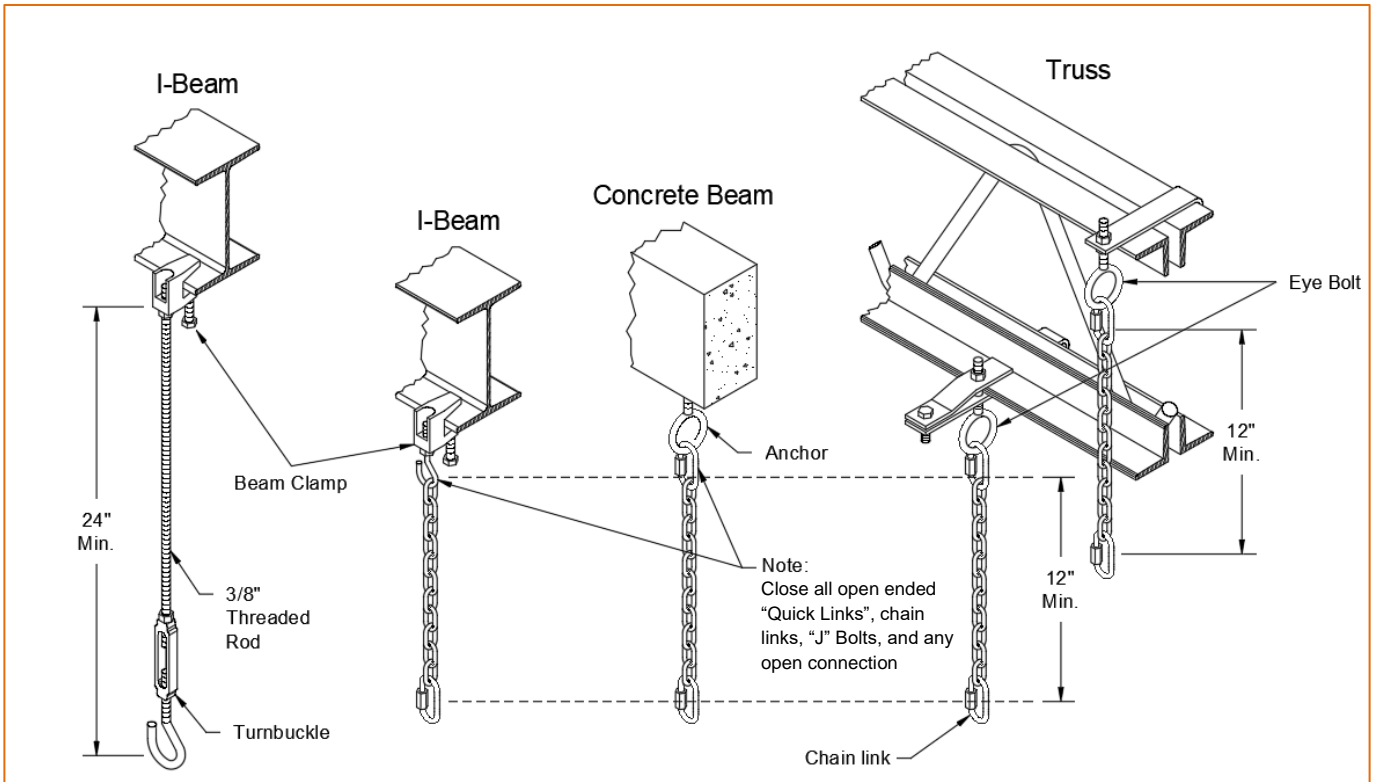

Figure 5: Suspension Mechanism
- Suspension mechanism must allow for lateral tubing expansion. A minimum 12" length welded link chain with a working load limit of at least 200 lbs. is recommended (refer to Figure 5 for more details). SRP recommends and makes available "quick links" for connecting chain. If any open ended turnbuckles are used, the open ends must be closed to avoid unhooking chain with inadvertent contact.
- Install the tube and reflector support hanger on the chain with “Quick Links”; refer to Figures 5 & 6.